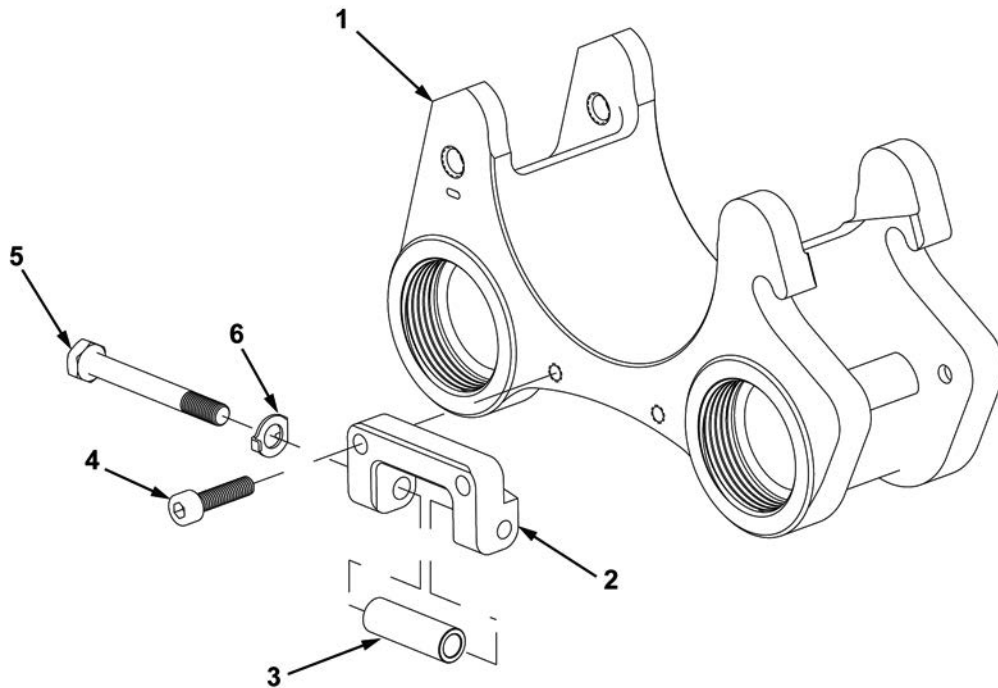

Figure 5. Disassembly of Stowage Bracket.
9. Remove two socket head capscrews (Figure 5, Item 4) and mounting bracket (Figure 5, Item 2) from lower clamp (Figure 5, Item 1).
10. Straighten tab on key washer (Figure 5, Item 6). Remove hexagon head capscrew (Figure 5, Item 5), key washer, and sleeve spacer (Figure 5, Item 3) from mounting bracket (Figure 5, Item 2). Discard key washer.